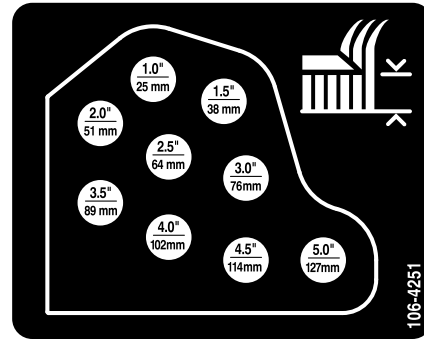

Figure 17
- Mount the height-of-cut chains to the desired height-of-cut hole (Figure 17) with the clevis pin and hairpin cotter.